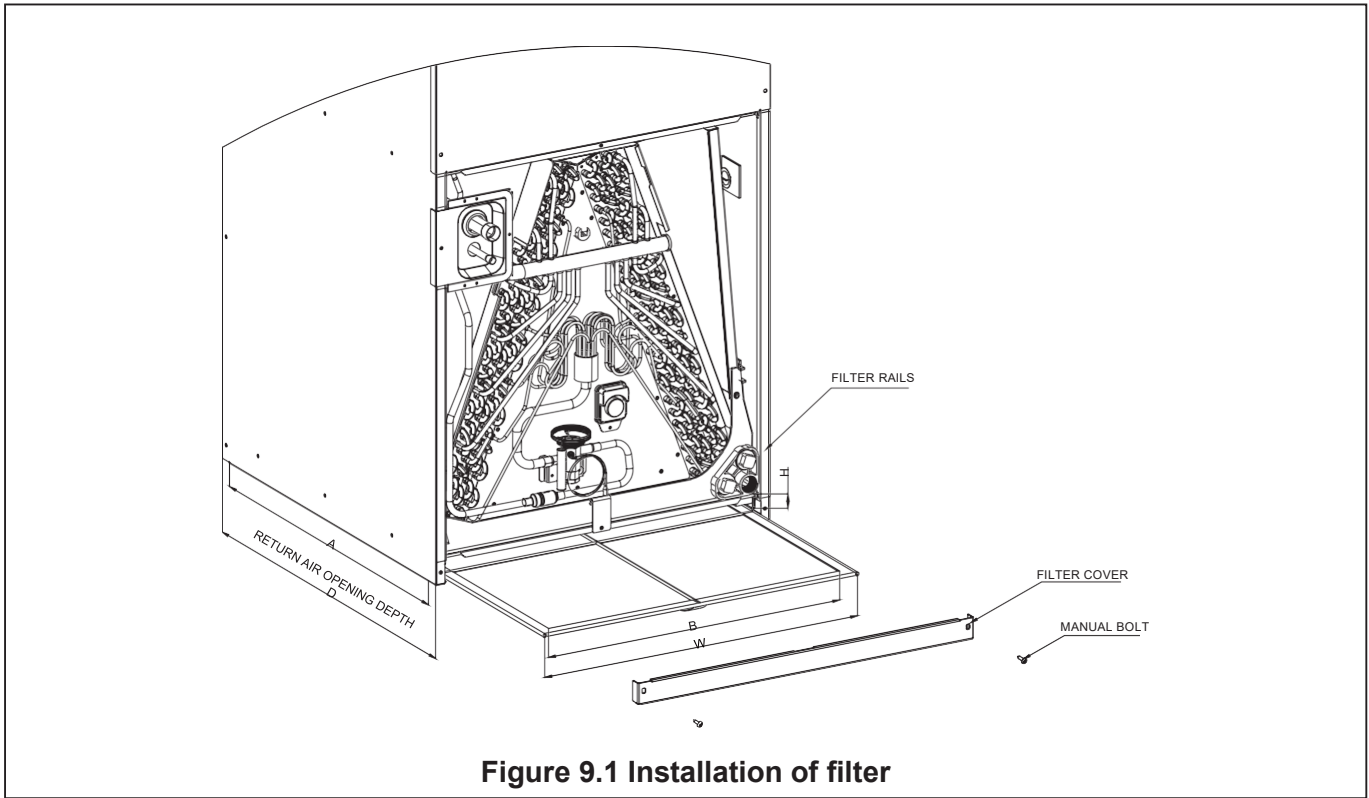

Figure 9.1 Installation of filter
When installing the indoor unit, regardless of the installation method, make sure that the filter is installed as shown in Figure 9.1.
- Manually remove the bolts and remove the filter cover, as shown in Figure 9.1.